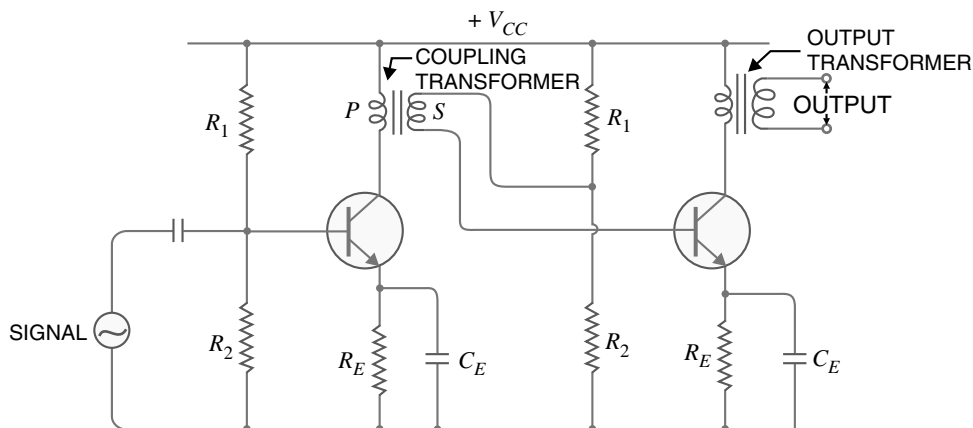

Fig. 9.24
Transformer coupling is generally employed when the load is small. It is mostly used for power amplification. Fig. 9.24 shows two stages of transformer coupled amplifier. A coupling transformer is used to feed the output of one stage to the input of the next stage. The primary  $P$  of this transformer is made the collector load and its secondary  $S$  gives input to the next stage.
**Operation.** When an a.c. signal is applied to the base of first transistor, it appears in the amplified form across primary  $P$  of the coupling transformer. The voltage developed across primary is transferred to the input of the next stage by the transformer secondary as shown in Fig. 9.24. The second stage renders amplification in an exactly similar manner.